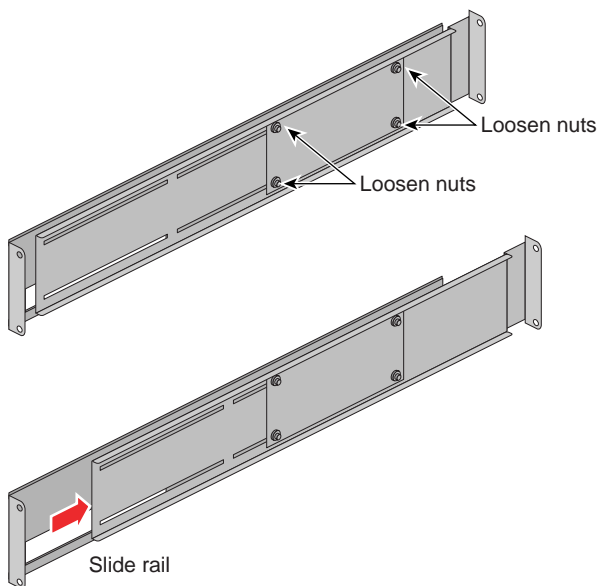

Figure 7-1 Outer Rail and Depth-Adjustment Plate Example
2. Each outer rail has a “nut plate” that acts as a depth adjuster. You can adjust the length of a rail by loosening the nut plate with the T25 Torx driver and sliding the rail. See Figure 7-1 for an example. Note that the rack mounting rails require a minimum interior mounting depth of 28.5 inches (72.4 cm).